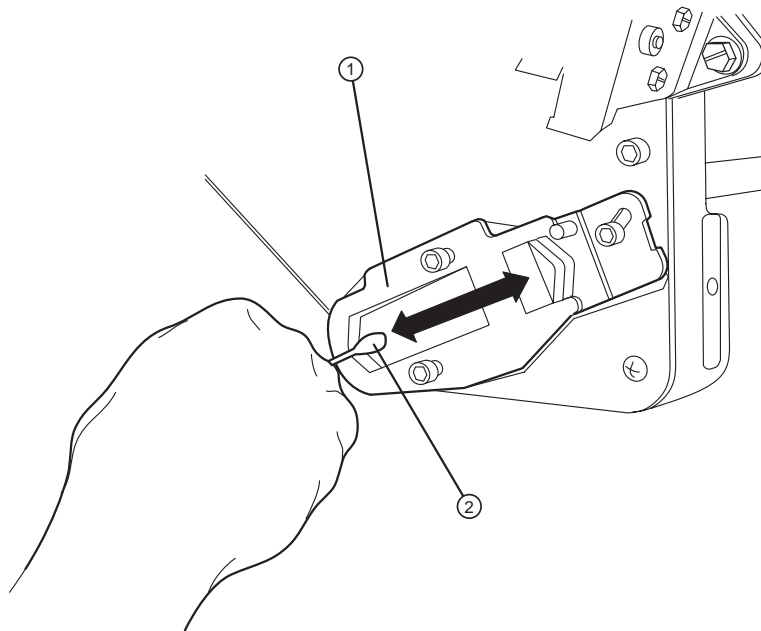

Figure 1-7 Lubricating the detent plate V-groove.
4. Before lowering the bridge, grease the V-groove and flat surface on the detent plates (left and right) located within the imagesetter. Refer to Figure 1-7.